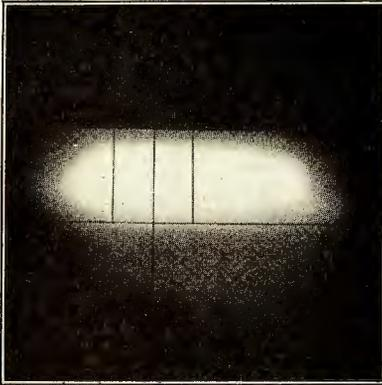
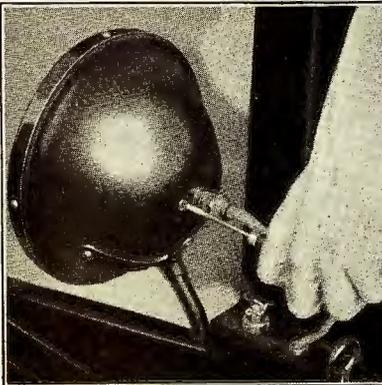

Fig. 124
Fig. 126
- 155** The headlamps should be checked for alignment and focus. This is done with the empty car standing on a level surface and facing a white wall or screen 25 feet in front of the headlamps. The wall must be marked off with black lines as shown in Fig. 124 and 125, and must be shielded from direct light, so that the light spots from the headlamps can be clearly seen.
- 156** First turn on bright lights, then focus first one lamp and then the other, by means of the adjusting screw at back of lamps (See Fig. 126). Adjust the bulb filaments until an elongated elliptical spot of light appears on the wall with its long axis horizontal (See Fig. 124). When focusing, adjust the bulb to obtain as great a contrast and as well defined cutoff across the top of the spot of light as possible. With lamps thus focused for the "bright" filament, the "dim" will be in correct position.